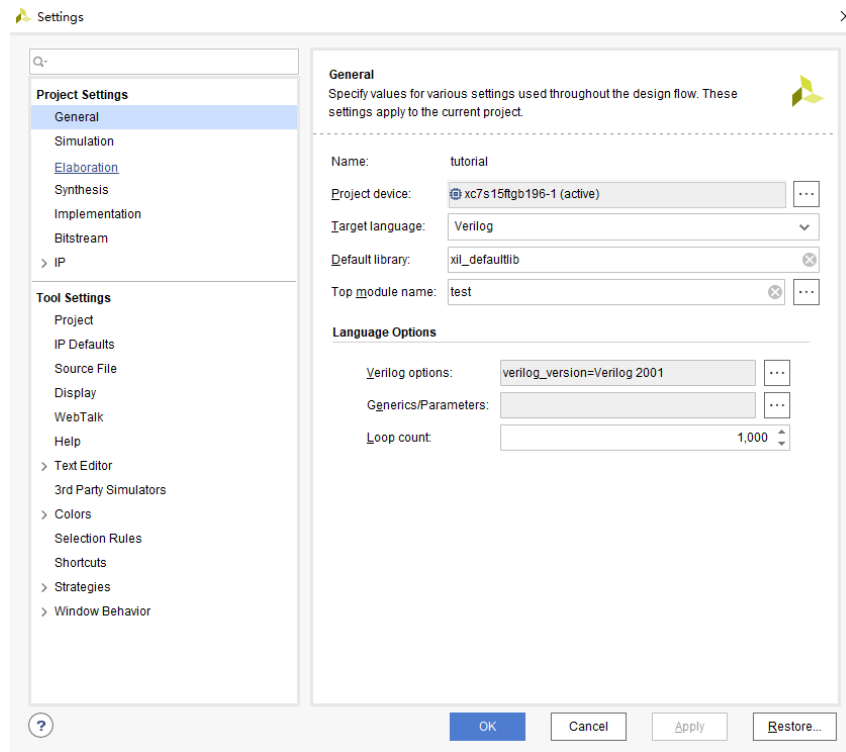

Figure 9.
1. In the Flow Navigator, under Project Manager, click the Settings command. The Settings dialog box opens with Project Settings at the top, and Tool Settings below that, as shown in figure 9.